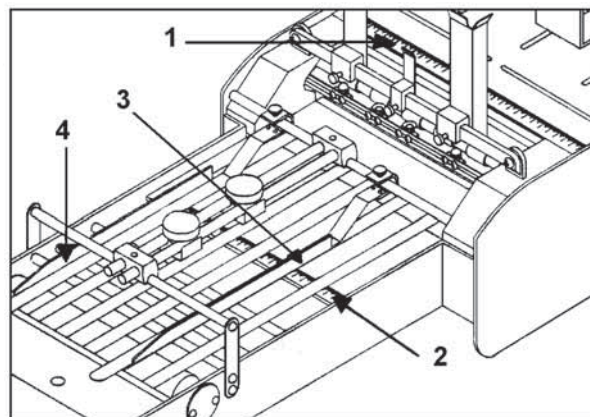

Figure 9
11. Using scale on Feeder floor and scale on Conveyor, [#1, Fig. 9], and scale on Conveyor, [#2, Fig. 9], roughly adjust Stop Guide, [#4, Fig. 9] and Push Guide, [#3, Fig. 9] so envelope coming down will clear them.
20. When envelope is against Front Stop Plate, position front skid wheel [#2, Fig. 9] so it lightly touches trailing edge of envelope.